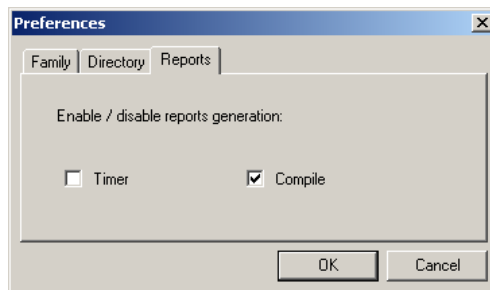

Figure 1-6. Preferences Dialog Box - Reports Tab
3. **Enable or disable your reports.** Use the Reports tab to enable or disable your Timer and Compile reports. Click the checkbox to enable the reports, leave empty to disable (Figure 1-6).